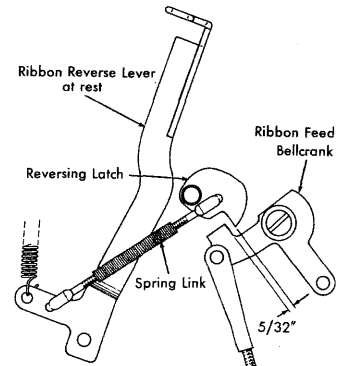

Figure 50. Ribbon Spring Link Adjustment
5. Adjust the spring links so that, in the supply position with the pawls disengaged, the reversing latches clear the path of the ribbon feed bellcranks by about $\frac{5}{32}$ (Figure 50).